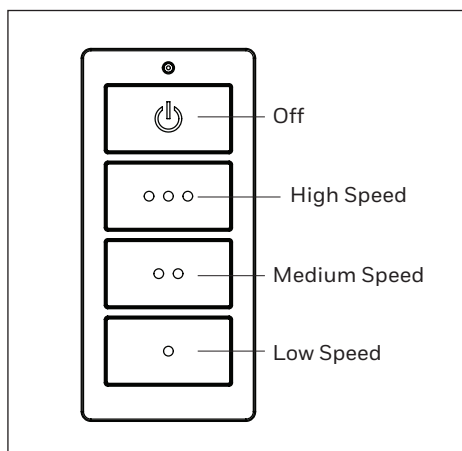

Figure 2.2
2. To operate the fan using the remote, press and release the following buttons (Figure 2.2):